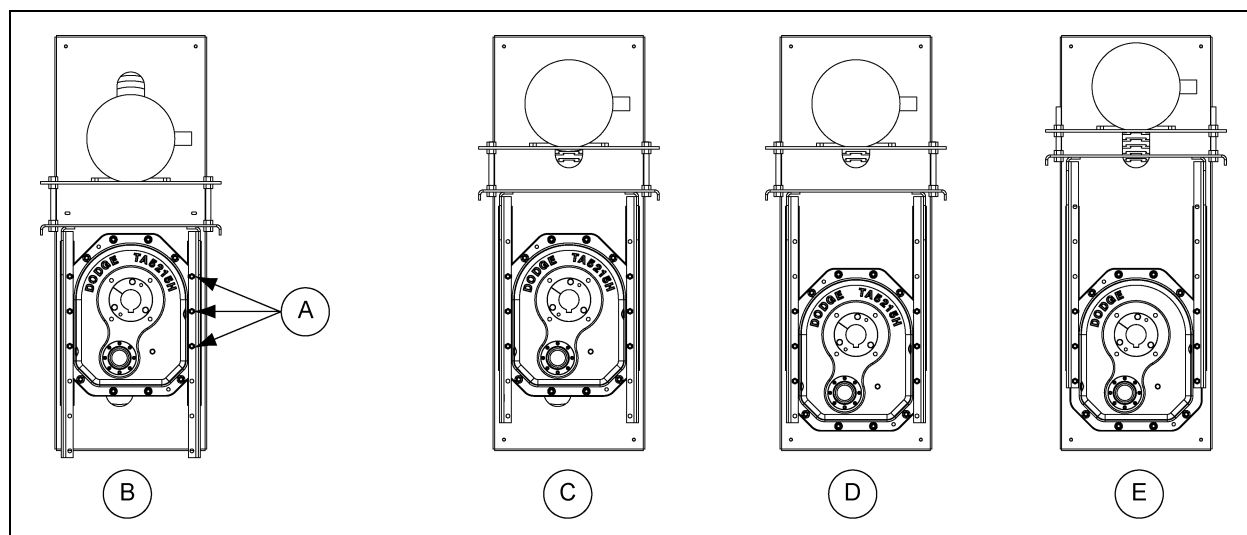

Figure 6AJ
5. Tighten bolts securely. (**NOTE:** *Motor mount upright bracket may have to be trimmed for torque arm clearance.*) *(See Figure 6AK on Page 35.)*